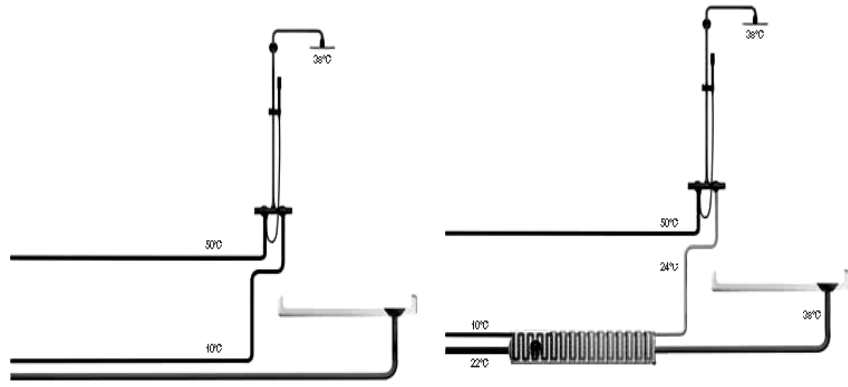

Fig. 3. Preheat of cold water for immediate consumption [3]
- Preheat of cold water combined with domestic hot water tank – Fig. 3